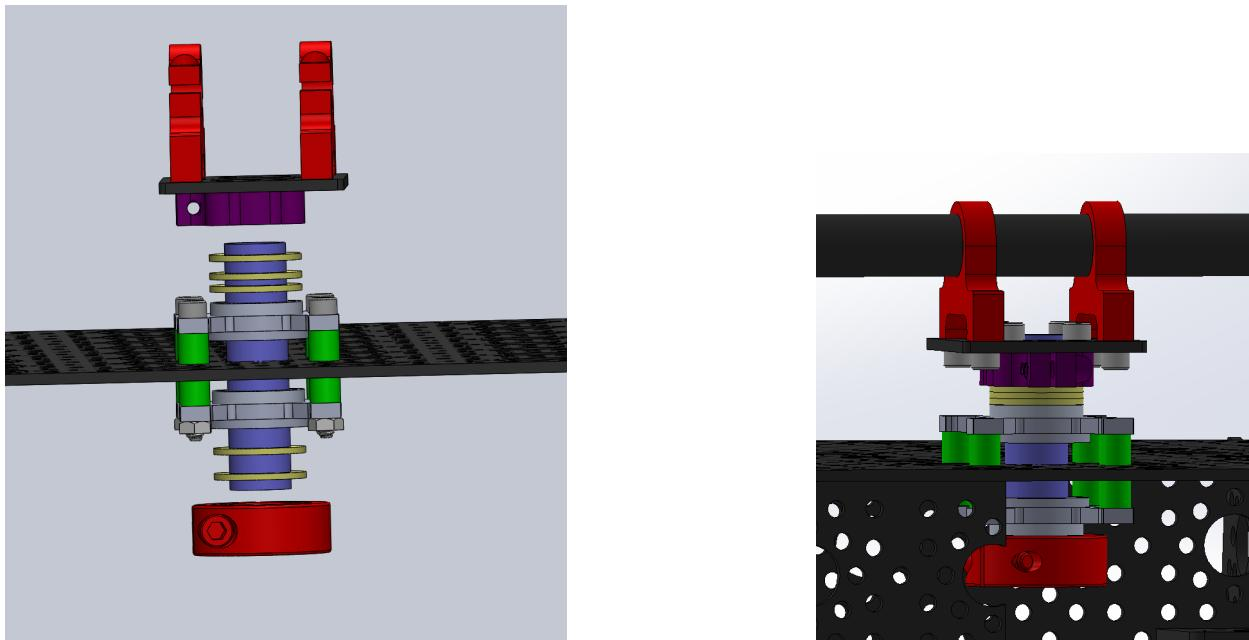

Figure 8: Inserting differential pivot joint
- Mounting the differential pivot center:** Mount a collar clamp **S22** onto the end of the 2" Aluminum Rod **S19** as well as two of the 0.5" Nylon washers **W3** as shown in Figure 8. Then, insert this rod into the pillow bearing blocks from the inside of the body assembly. Add three more nylon washers on the outside / top and then attach the clamping assembly on the middle of the differential pivot (see Figure 8).